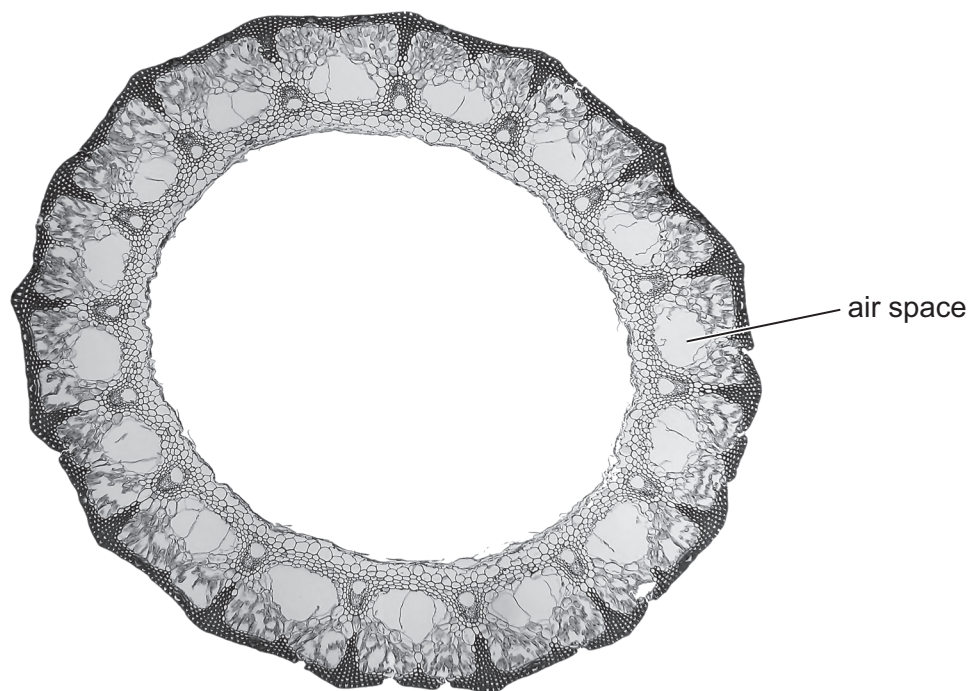
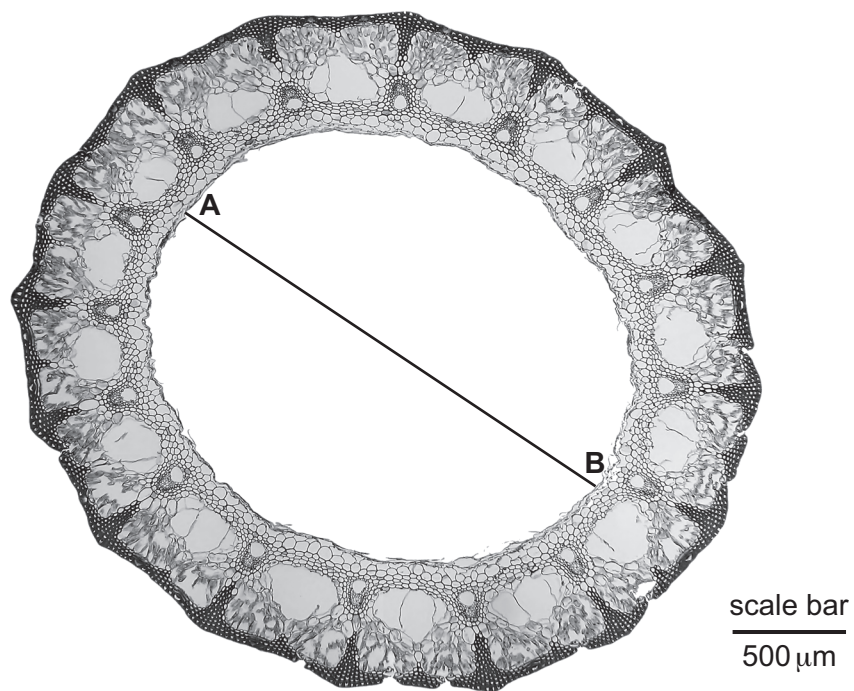

Figure 2.2
Figure 2.3
- (b) Figure 2.2 is a photomicrograph of a stained transverse section of a stem from a different plant.
- (i) Identify **three** observable differences, other than colour, between the section on **J1** and the section in Figure 2.2.
- (ii) The stem section shown in Figure 2.2 is from a plant that is adapted to live in a wetland habitat.
State **one** feature visible in Figure 2.2 that adapts the plant to live in this habitat.
(c) Figure 2.3 is the same photomicrograph as that shown in Figure 2.2.
Use the scale bar on Figure 2.3 and the line **A–B** to calculate the actual diameter of the central region in Figure 2.3.